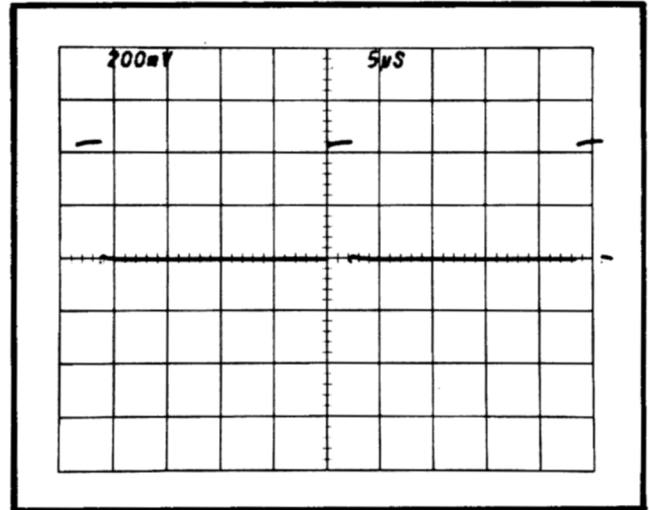

Fig. 5-13. CRT display when checking sweep holdoff time.
c. CHECK—The holdoff time is 3.5 μ s or less (see Fig. 5-13).